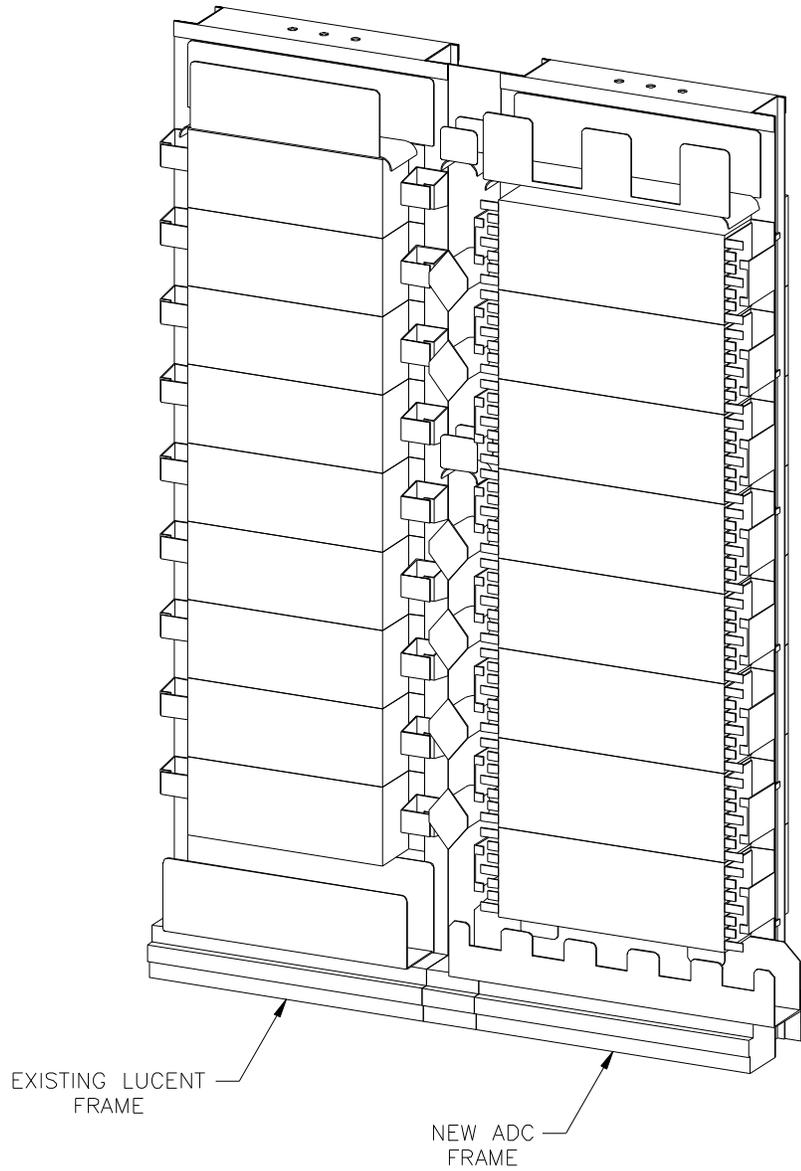

Figure 9-1. Transition from Lucent LGX to ADC 12" FDF.
- 9.2.2 ADC frames feature upper and lower horizontal cable troughs which makes transitioning easier between the existing (Lucent) and new (ADC) platforms- 12" (See Figure 9-1).